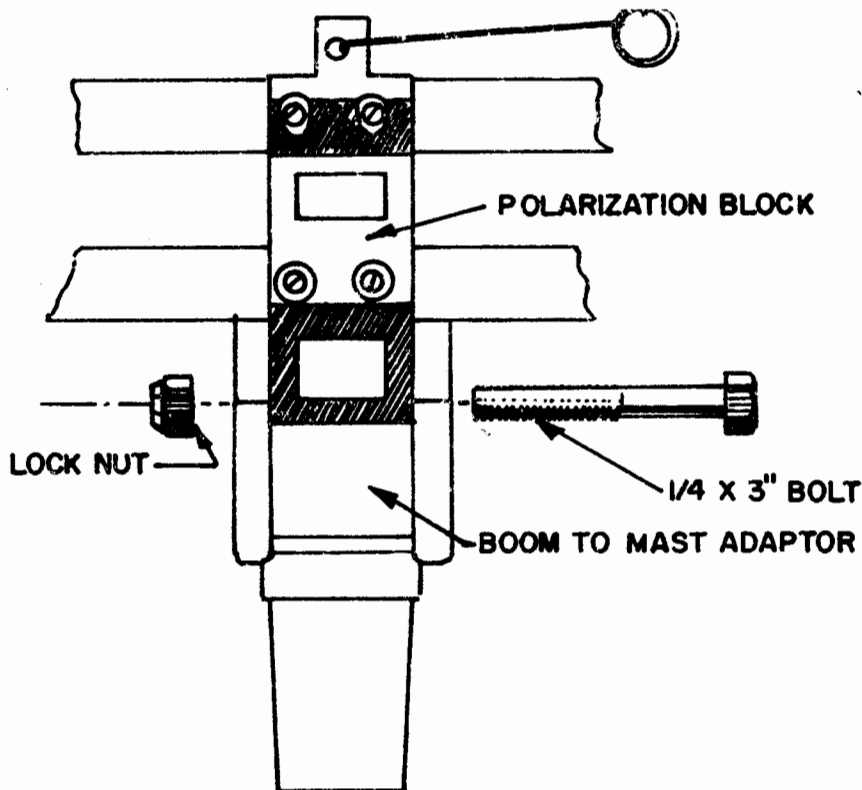

Figure 3-7 Replacing Boom to Mast Adapter
- (1) Refer to Figure 3-7 and remove boom to mast adapter from upper fiber-glass mast assembly by removing the retaining pin.
- (2) Remove the bolt holding the adapter to the polarization block.
- (3) Replace the damaged boom to mast adapter.